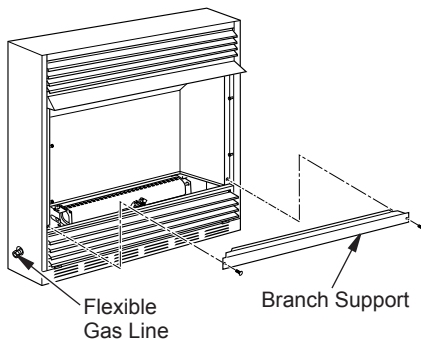

Figure 23 - Removing Branch Support From Fireplace
1. Remove screws that attach branch support to fireplace (see Figure 23). Carefully lift up branch support and remove from fireplace (see Figure 23).
NOTICE: Most building codes do not permit concealed gas connections. A flexible gas line is provided to allow accessibility from the fireplace (see Figure 23). The flexible gas supply line connection to the equipment shutoff valve should be accessible.